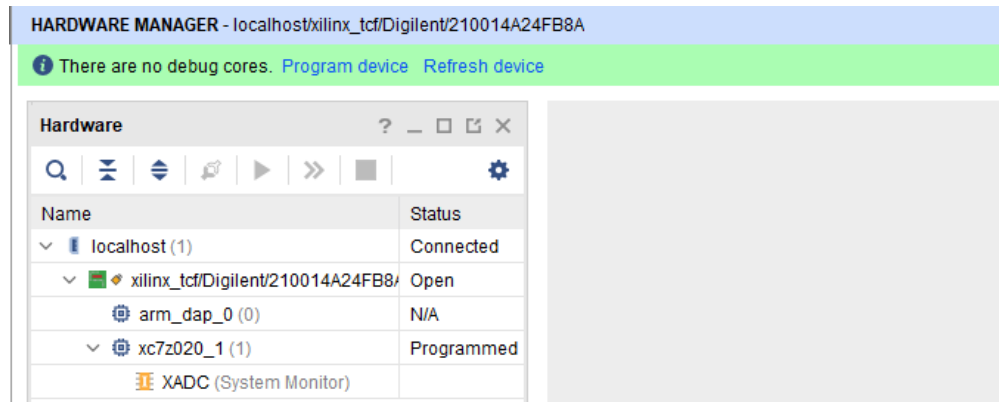

Figure 8: Program Device once Connected
9. Once connected, the auto connect banner along the top will change to tell you there are no debug cores connected. This isn't an issue - our debug core is built-in to the design so it will connect once you program the device. Click Program device (Figure 8).